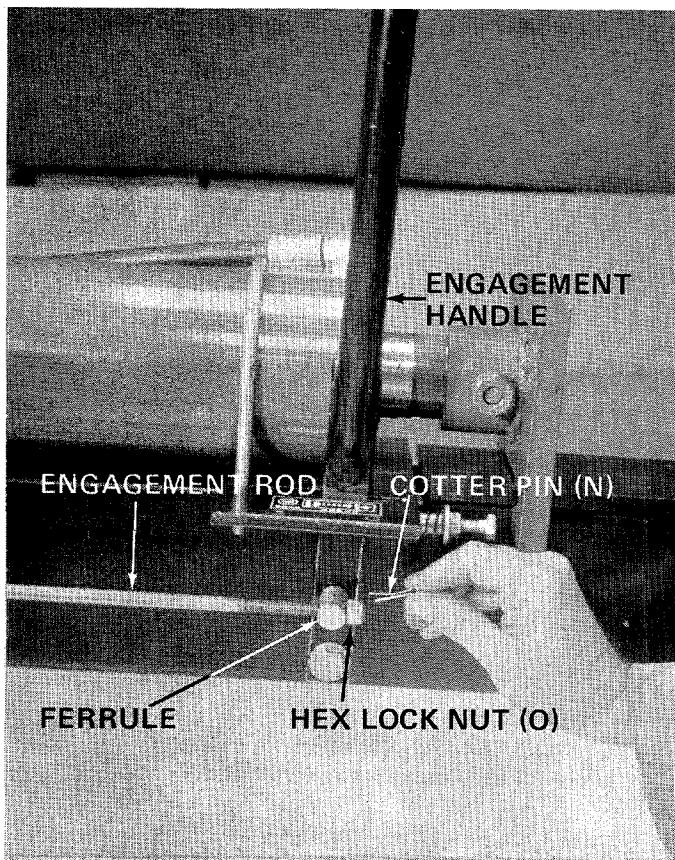

FIGURE 13
13. Thread hex lock nut (O) on engagement rod until nut rests against the ferrule. Secure ferrule in engagement handle with cotter pin (N). See figure 13.